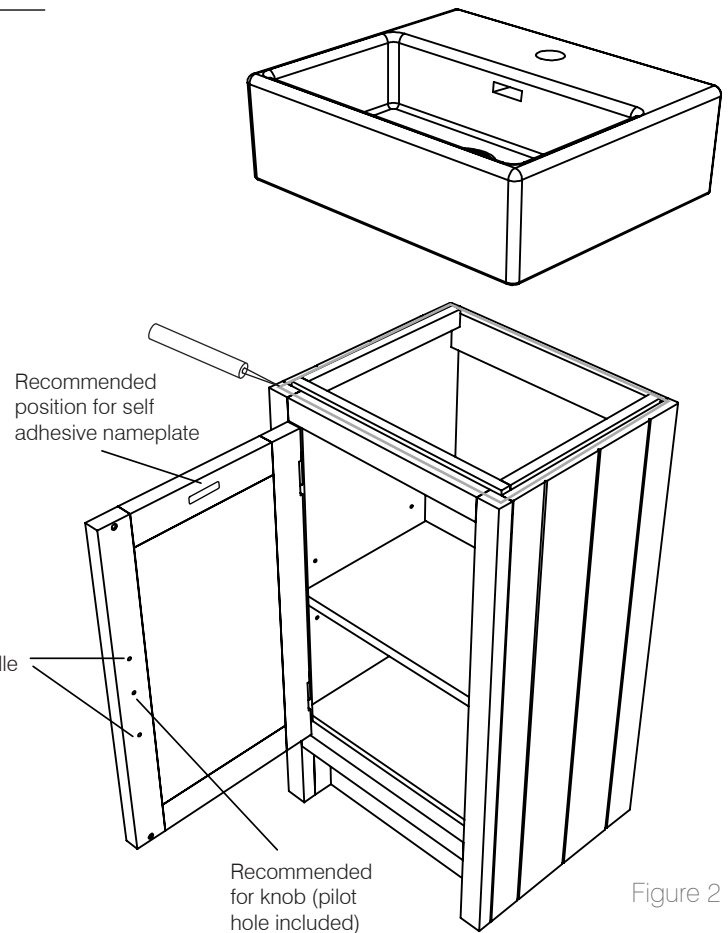

Figure 2
- Apply a layer of silicone sealant to the basin on all 4 sides to be fixed to the panels, back rail and front section as per figure 2.